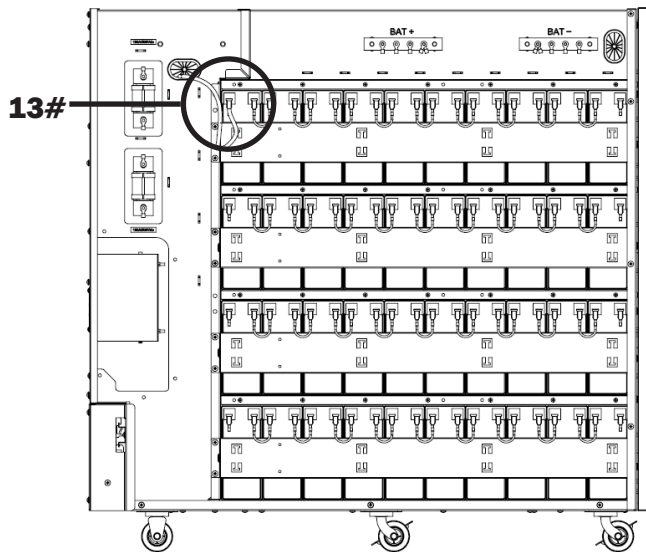

Figure 5-21A
31. Connect group 4 battery 10- to N battery bus bar (BAT N) (Figure 5-21A).